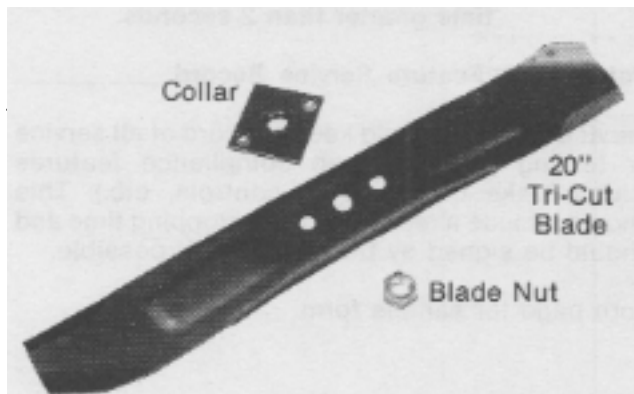

Figure 42
-  **NOTE:** This Blade and Hardware will fit all previous Lawn-Boy mowers, using only the Blade Driver and Blade Nut (as shown in Fig. 42). Do not use the old blade stiffener or washer with these new blades.